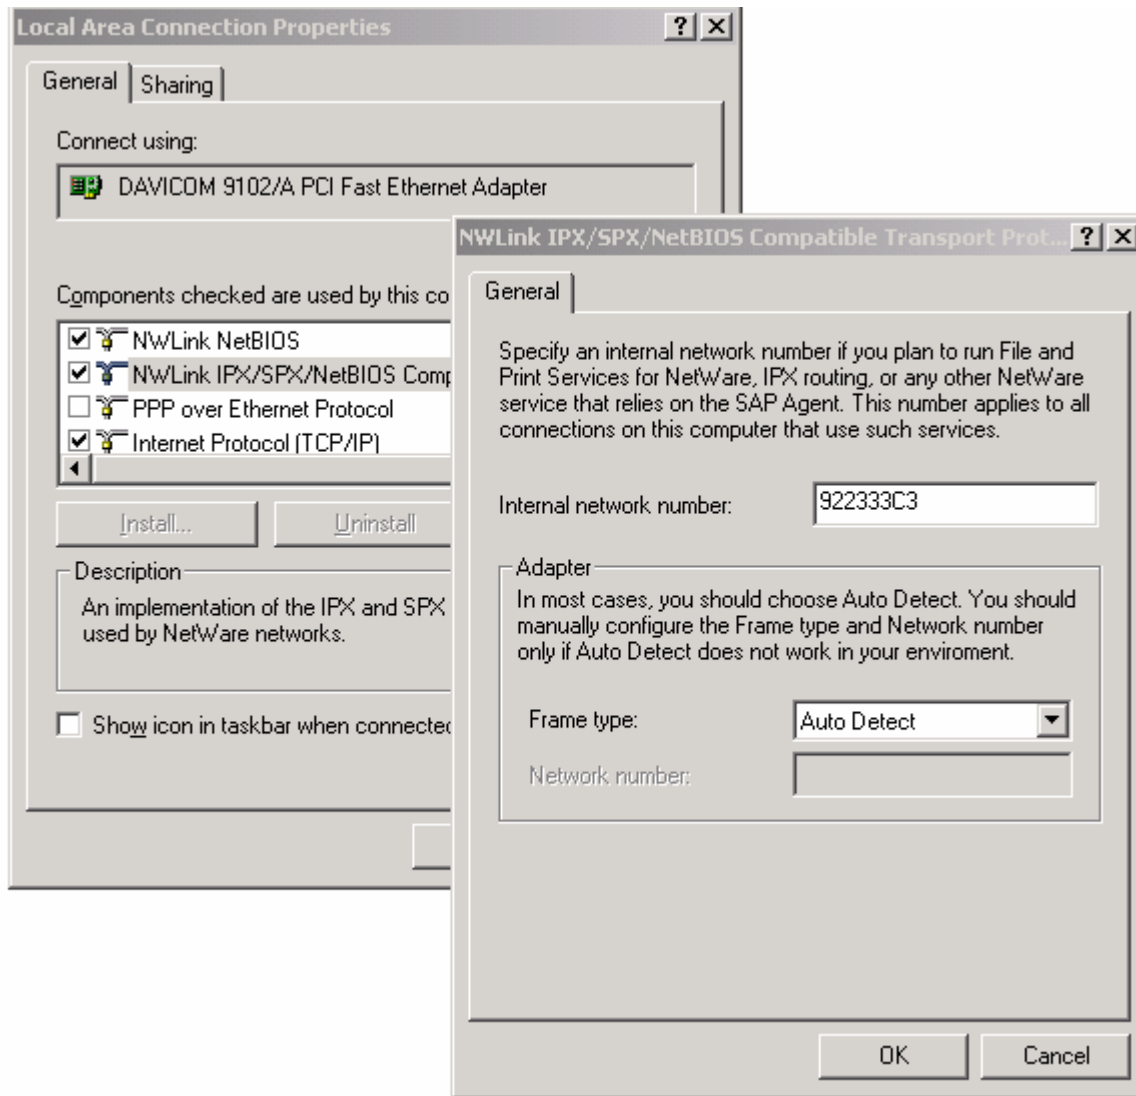

Figure 2
-Since there is no server, the IPX-Frame-Type is NOT defined on the network, so the default FRAME-Type setting of AUTO may NOT work! So, in such cases, you MUST configure the Frame-type to 802.2 yourself. Also, you can use 0 (ZERO) for NET-number. Figure 2 shows the properties of IPX/SPX protocol.